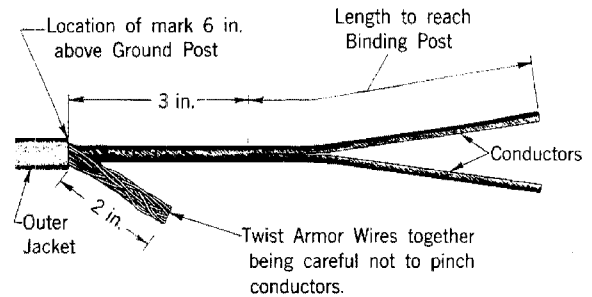

Fig. 8 – Prepare Ends for More than Two Wires
- (c) Where there are more than two underground wires, pull the slack from them and mark the outer jacket about 6 inches above the ground post. Prepare the ends of the third and fourth wires as shown in Fig. 8.